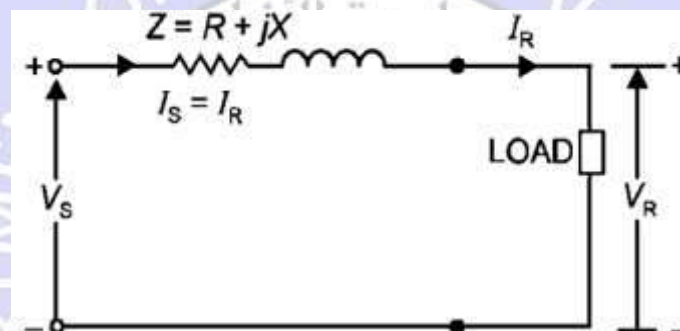

Fig. 28:
- The equivalent circuit of a single-phase short transmission line is shown in figure 28. The total line resistance and inductance are lumped.